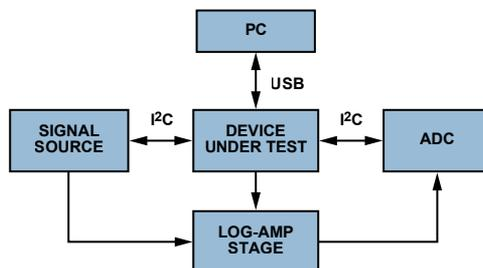

Figure 4. Block diagram of new test system.
A. Use a wideband *direct digital synthesizer* (DDS) IC, such as the AD5932,¹ to replace the function generator. This DDS provides your design with excellent frequency range and a high-quality sinusoidal output. Gain measurement becomes a simple task with the application of a pair of logarithmic amplifier ICs, such as the AD8307,² and a difference amplifier. And the final critical piece of the acquisition system is an analog-to-digital converter IC to replace the digital oscilloscope. Using a multi-input ADC, such as the AD7992³ or AD7994,⁴ will lower the total cost of the system by using two available channels to capture the logarithmic amplifiers’ result and perform the difference operation in software. The revised arrangement will look like Figure 4.
A. After assembling the circuit building blocks as shown in Figure 4, you can verify (or calibrate) the performance using, first, a unity-gain amplifier, then a gain-of-10 amplifier in place of the device under test.